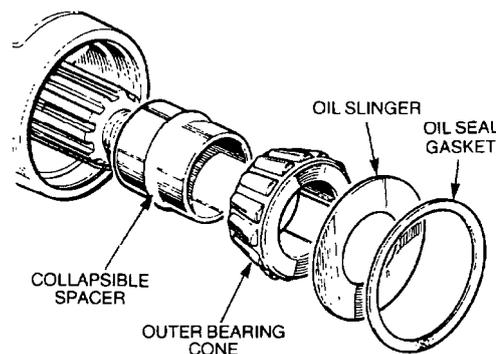

Figure 225 Installing the Collapsible Spacer and Outer Bearing
- o. When the pinion shaft setting is satisfactory, remove the nut, flat washer, coupling flange and outer bearing cone and install a new collapsible spacer with the flared end towards the flange end. Fit the bearing, oil slinger and oil seal gasket (Figure 225).